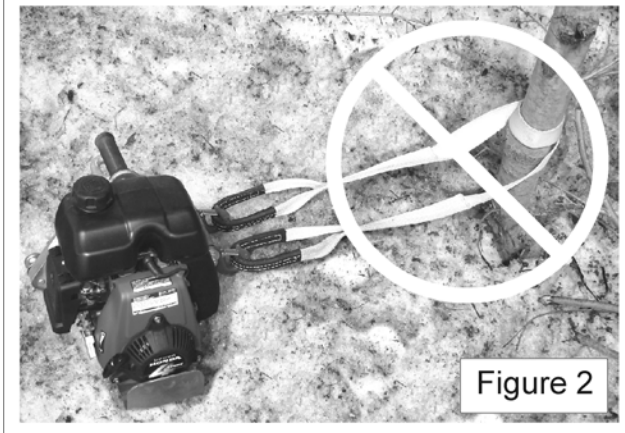

Figure 2
DON'T DO THIS! When you anchor the winch, make sure that you DO NOT do a complete wrap around the anchor point (figure 2). This set-up will prevent proper alignment of the winch with the load and will put uneven tension on the winch anchor hooks.
- 3) Slide the plate on the ball hitch and pull the winch forward (figure 2 next page);